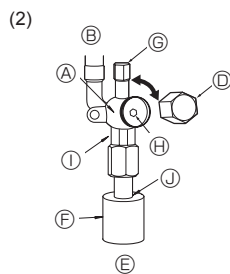

Fig. 4-6
- ① Remove the cap, pull the handle toward you and rotate 1/4 turn in a counterclockwise direction to open.
- ② Make sure that the stop valve is open completely, push in the handle and rotate the cap back to its original position.
- (2) Liquid side of P71-140 (Fig. 4-6)
- ① Remove the cap and turn the valve rod counterclockwise as far as it will go with the use of a 4 mm hexagonal wrench. Stop turning when it hits the stopper. (ø9.52: Approximately 10 revolutions)
- ② Make sure that the stop valve is open completely and rotate the cap back to its original position.